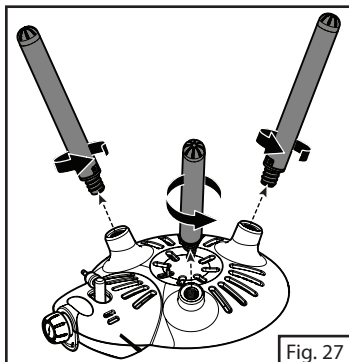

Fig. 27
2. Turn over the stove and place on a flat, soft surface. Unscrew legs from stove base by turning counterclockwise (Fig. 27).